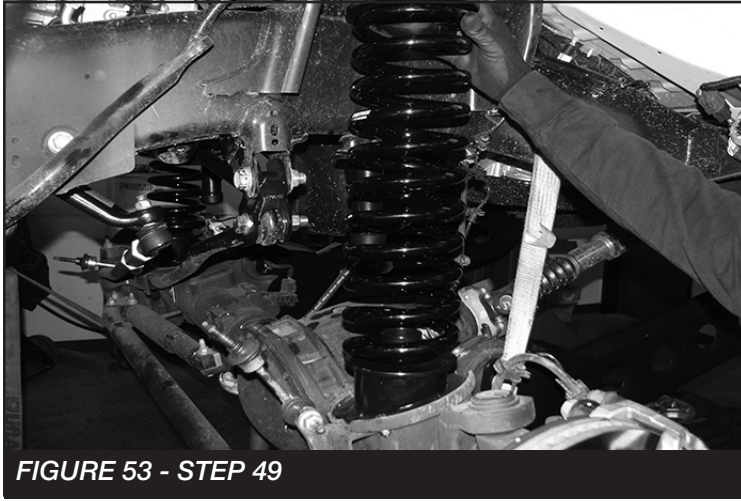

FIGURE 53 - STEP 49
49. Locate and install the new coil spring (FT44316BK) using the factory coil spring isolator. **SEE FIGURE 53**